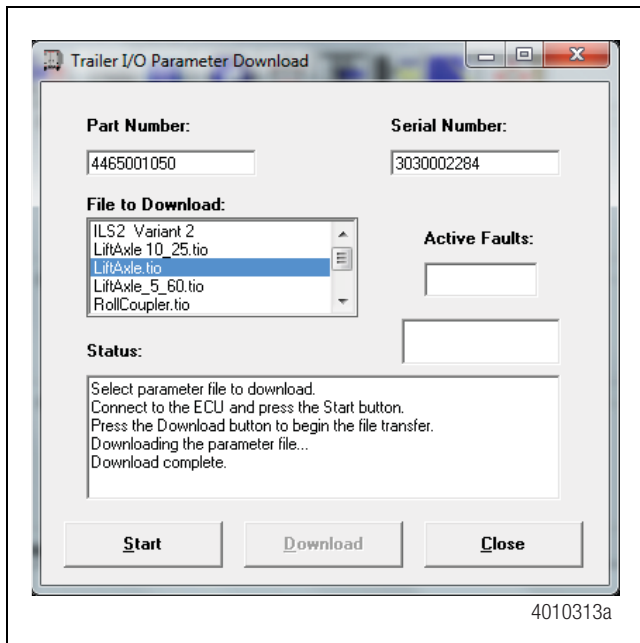

Figure 15
3. After the TOOLBOX™ screen displays "Download Complete", press **Close** and perform the Lift Axle Test. Figure 15.